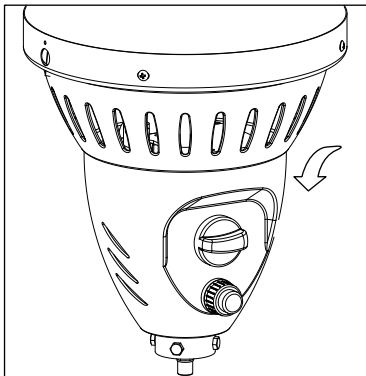

Figure 3
- Push in control knob and turn counterclockwise to "PILOT" (Figure 3).